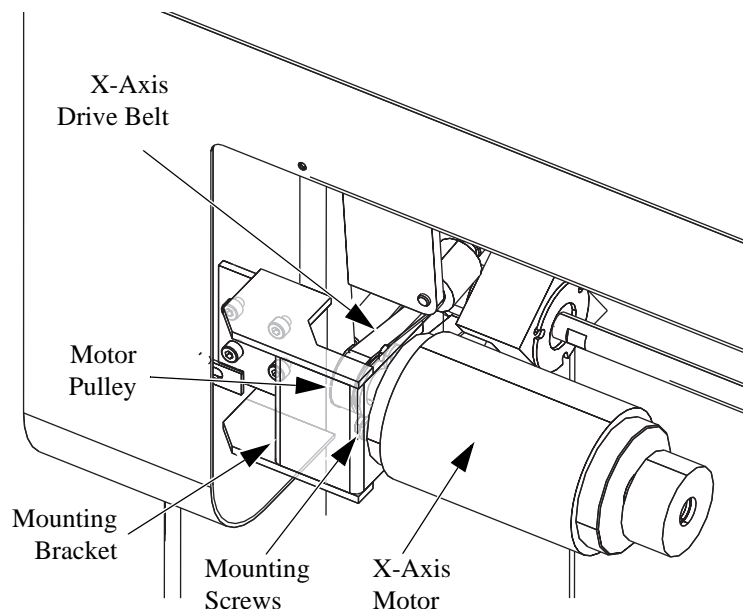

Figure 9-16 Replacing the X-Axis Motor
6. While supporting the motor, remove the mounting screws that secure the motor to the mounting bracket (see Figure 9-16). Retain all mounting hardware.